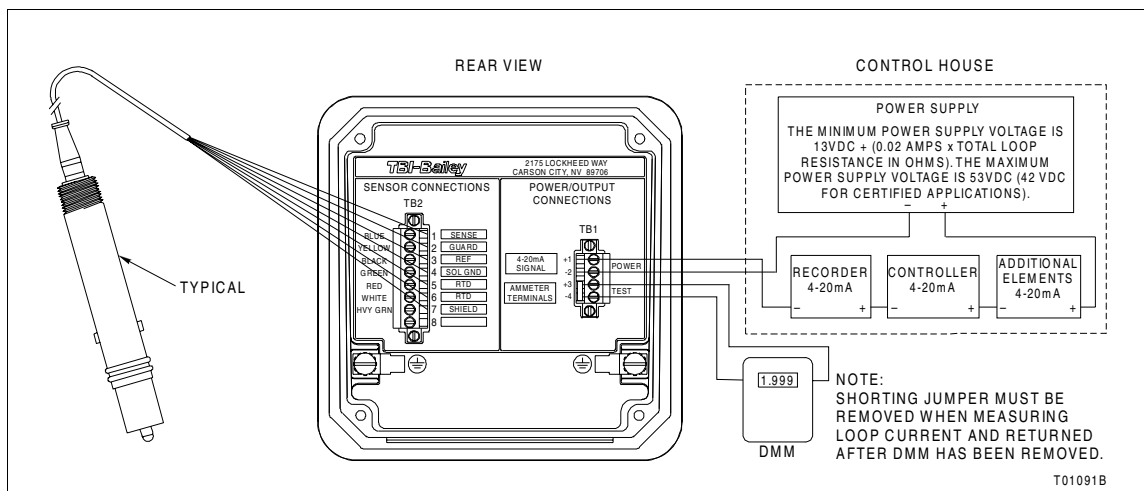

Figure PR5-2. Signal and Power Wiring
- 2. Use the small bladed screwdriver to connect the signal and power wiring to TB1-1 (+) and TB1-2 (-) as shown in Figure PR5-2.